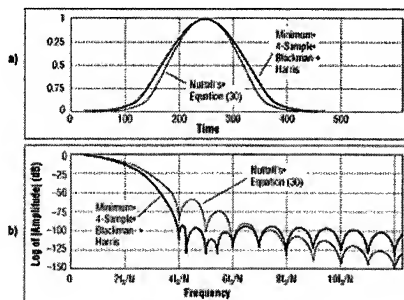

Figure 8. a) Two high-performance window functions greatly reduce
When Nuttall set the a_k coefficients to the "minimum 4-term" values of $a_0 = 0.355768$, $a_1 = 0.487396$, $a_2 = 0.14423$, $a_3 = 0.012604$, he obtained the window and the frequency response shown in **Figure 8**. The minimum-4-term window loses frequency resolution because it has a wide main lobe, but the first side lobe drops to -93 db.
If you require fast side-lobe rolloff in an application, consider Nuttall's Equation (30). It applies the following coefficient equation above: $a_0 = 10/32$, $a_1 = 15/32$, $a_2 = 6/32$, and $a_3 = 1/32$. Figure 8 also includes the window and frequency Equation (30). This window has a first side-lobe level of -61 dB and a significant side-lobe rolloff of -42 dB/octave.